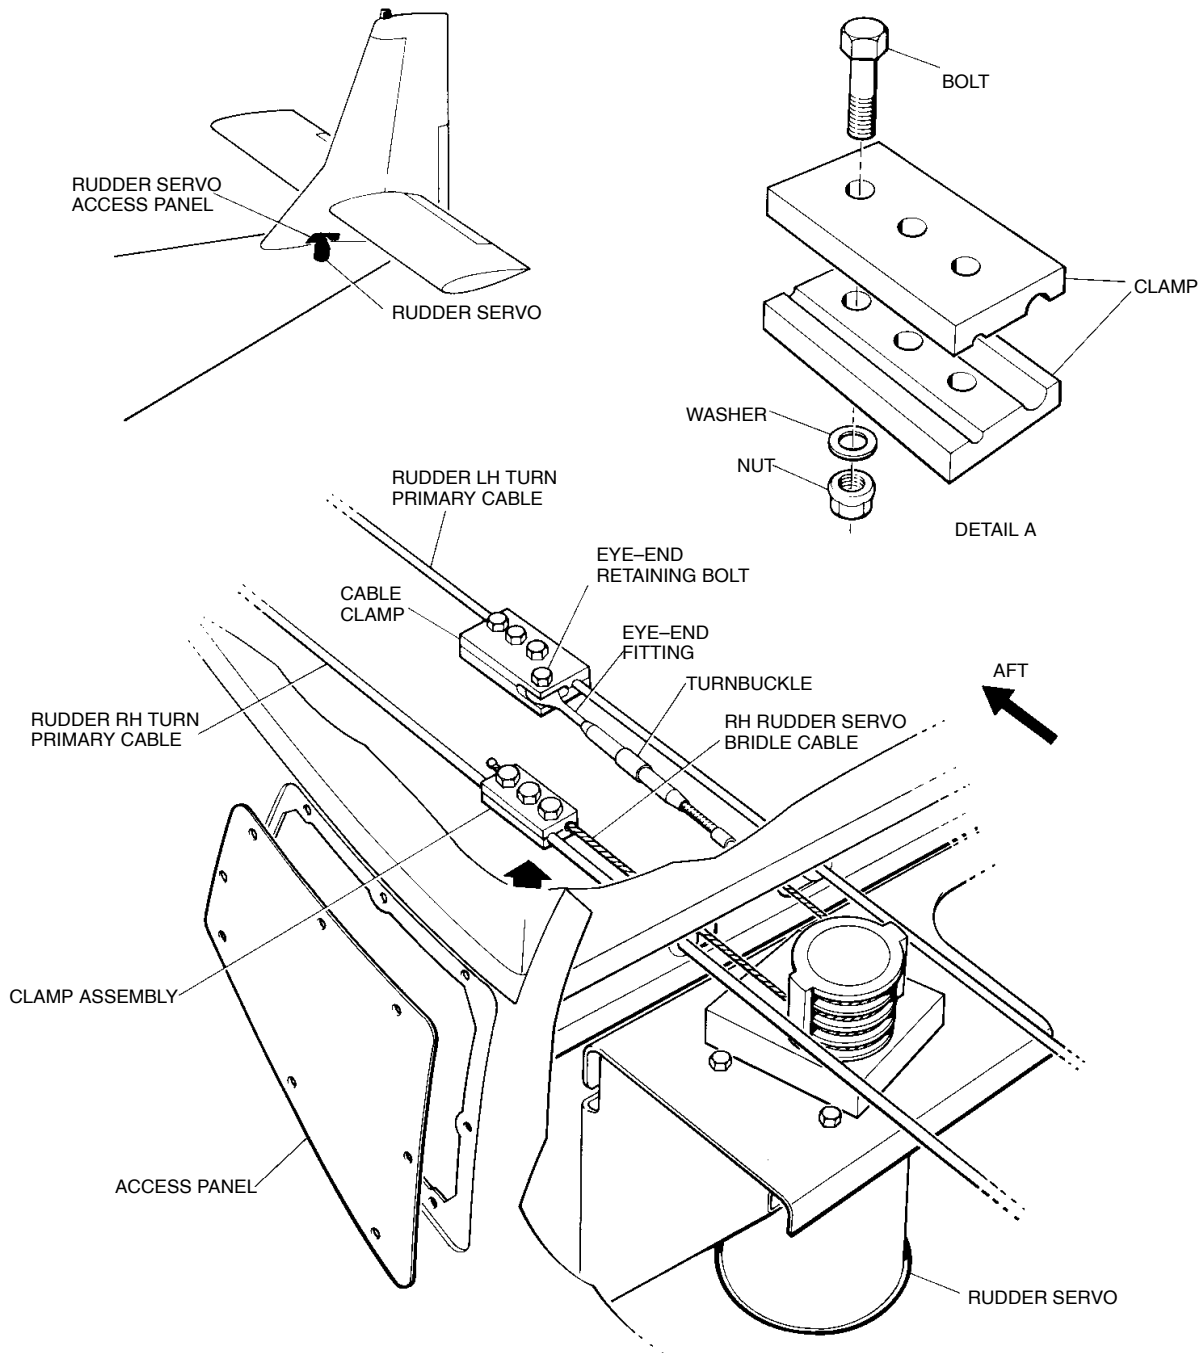

Figure 1 Mod N555-Installation
- A. Replace the bridle cable clamp assemblies 1/N–45–1315 (Ref Customer Option G101 or G101–24 Supplement I.P.C. Section, Figure 1 Sheet 2, item (–15) (N22) and item (–14) (N24).
- (1) Select the BATTERY switch to OFF and trip the autopilot circuit breaker identified AFCS located on the overhead console.
- (2) Remove the access panel at Sta 445 (N22) or Sta 490 (N24) in the fuselage skin to gain access to the bridle cable clamp assemblies.